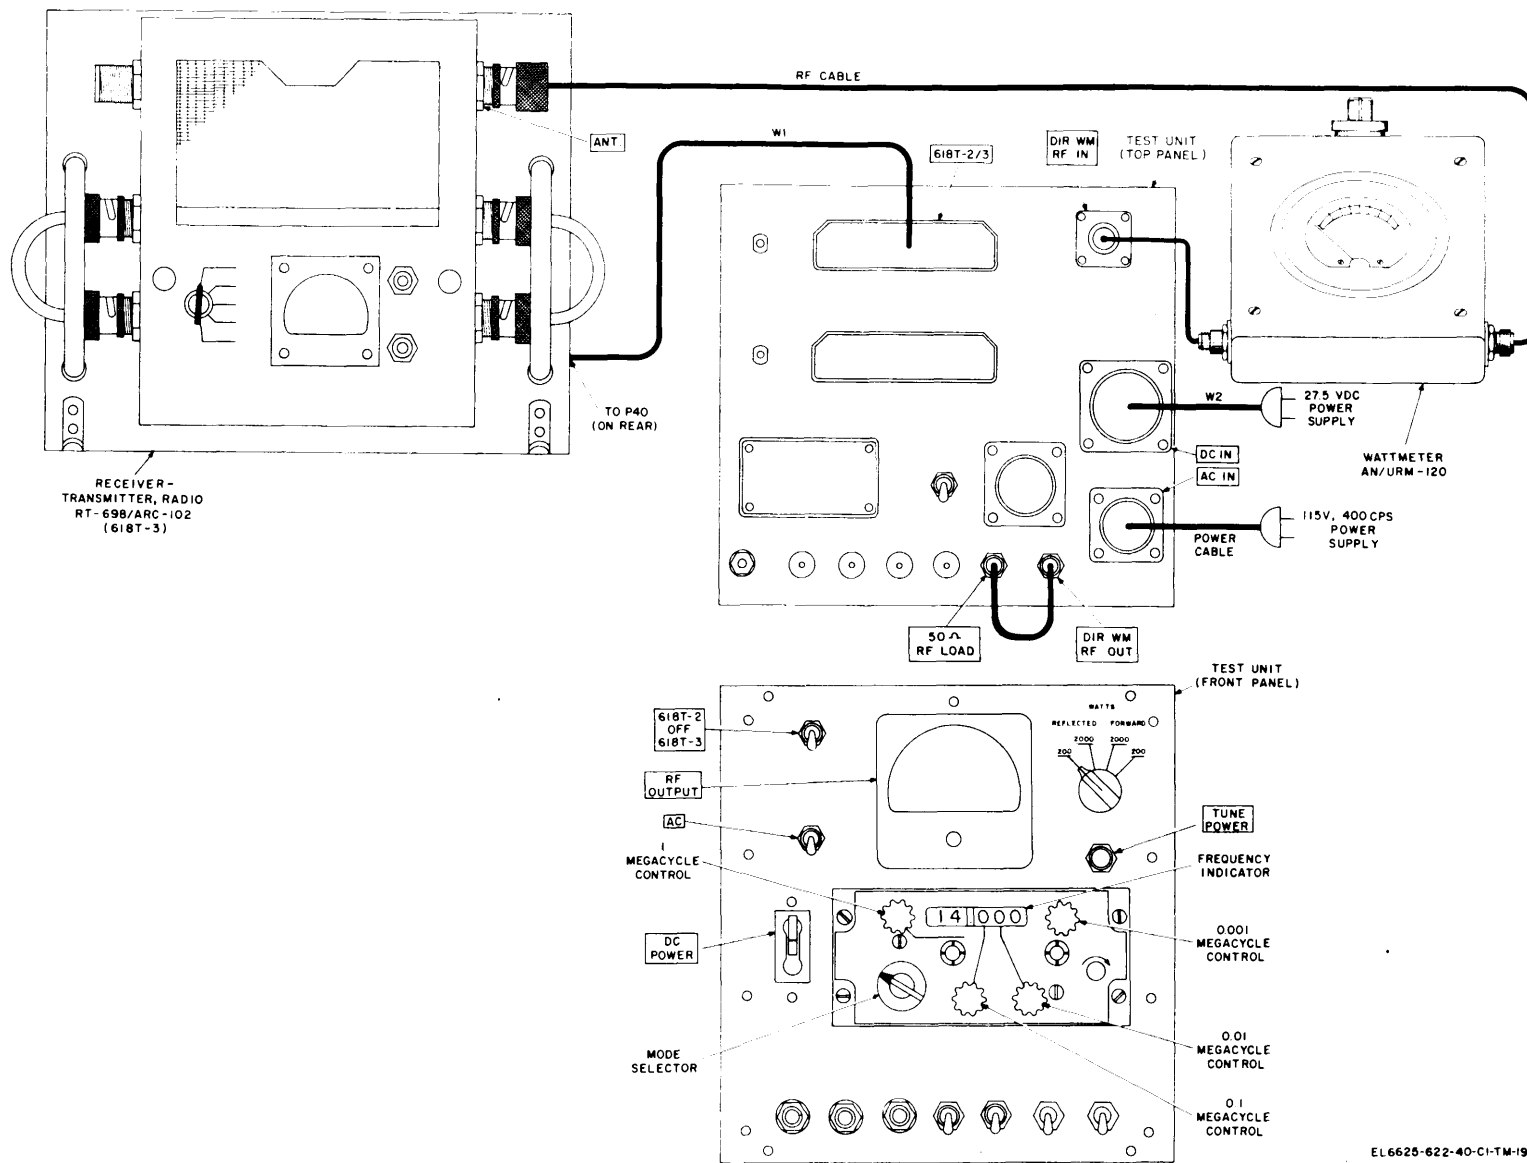

Figure 3-7. Test Harness, Radio Set AN/URM-157 directional wattmeter, calibration test connection.
- (1) Connect the equipment as shown in figure 3-7 or 3-8 and apply power, allowing the receiver-transmitter to warm up.
- (2) No conditions necessary.